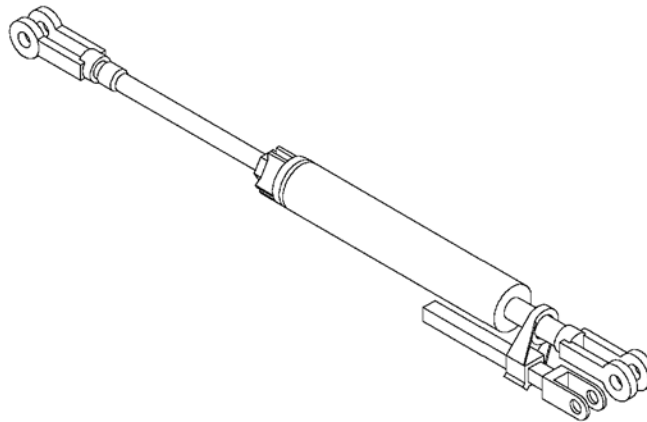

Figure 32: KRD-482-E Slack Adjuster
5.11 KR-482-E SLACK ADJUSTER, Fig. 32, 33 and 34